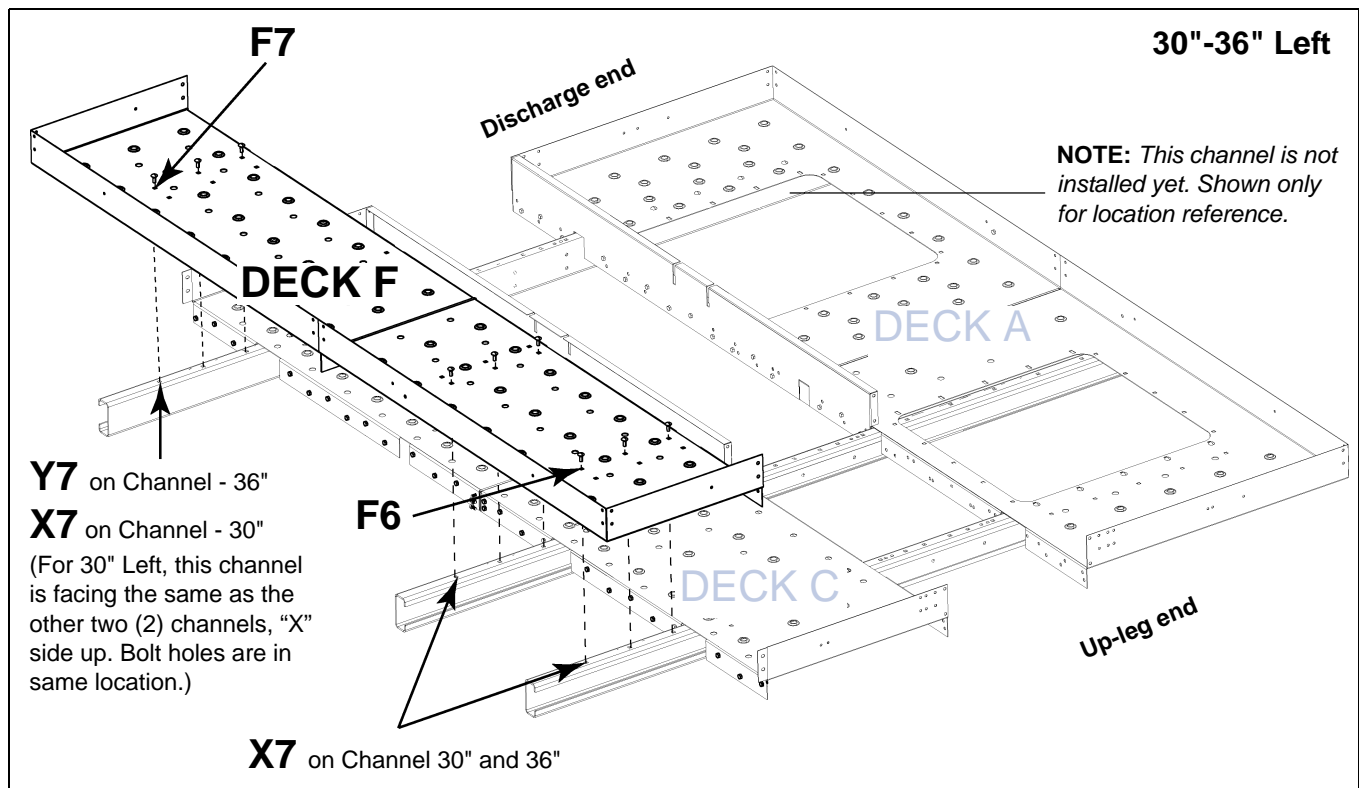

Figure 9L Deck F to Cross Deck Support Channel
1. Locate pre-assembled Deck F. This deck consists of two (2) planks.
2. Orient Deck F with hole **F7** at the discharge end of the lower head and **F6** at the up-leg end. *(See Figure 9L.)*
- b. F Deck hole **F1** to C deck hole **C7**. *(See Figure 9L.)*
(See Figure 9L on Page 73.)